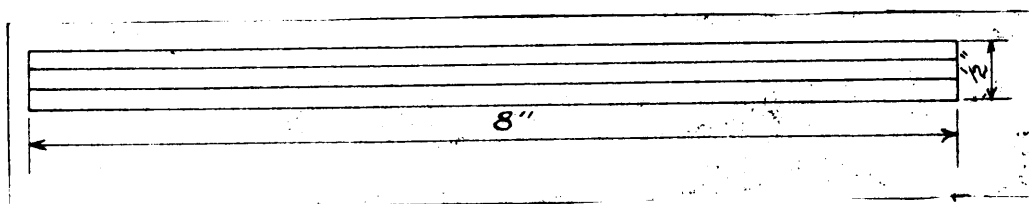

Figure 1.
1. Obtain tool steel 8" by  $\frac{1}{2}$ ". (Figure 1).